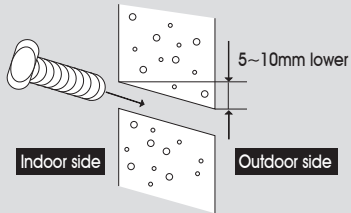

Figure 6
- Cut the Wall Sleeve to match the wall thickness and to pass the pipe through the hole. ( Figure. 6 )